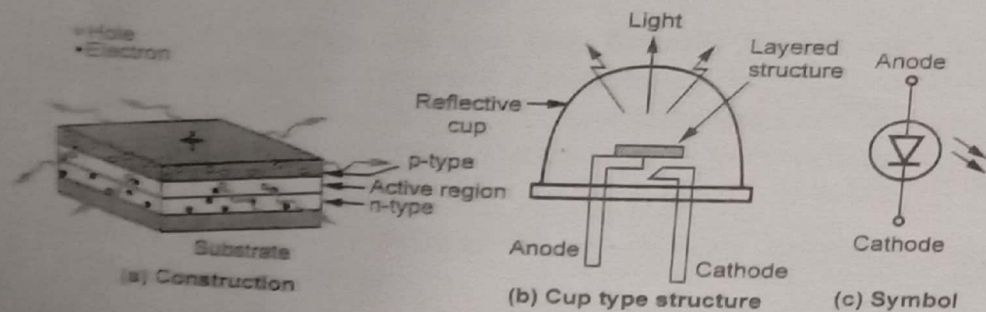

Fig. Q.1.1 LED
- In LED three semiconductor layers on the substrate are used as shown in the Fig. Q.1.1 (a).
- The LED emits light all the way around the layered structure. This layered structure is placed in a tiny reflective cup so that the light gets reflected towards the desired exit direction. This cup type structure is shown in the Fig. Q.1.1 (b).
- The symbol of the LED is shown in the Fig. Q.1.1 (c).